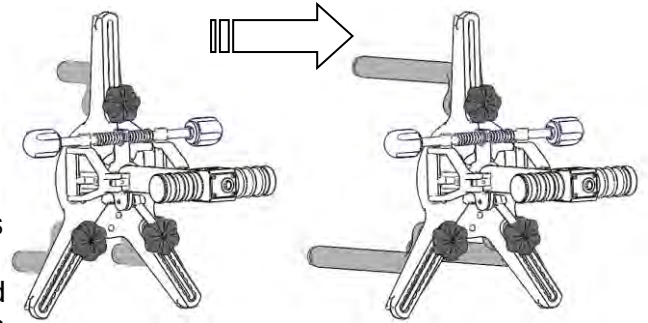

Fig. 2
- To do this, loosen the clamping star grip screws and replace the 100 mm long magnetic feet with the new 265 mm or 315 mm long (standard AXIS500) magnetic feet which are included with the delivery. (Fig. 2)